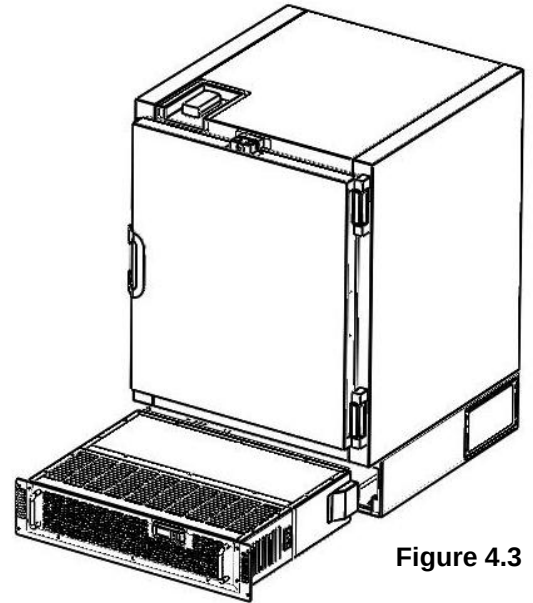

Figure 4.3
1. Place the rear of the module inside the opening in the front lower face of the **VersaFridge** unit. (See Figure 4.3)